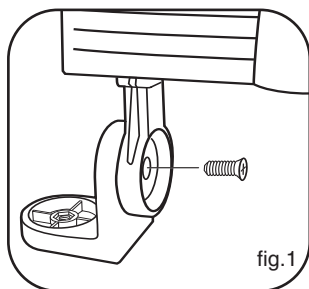

fig.1
1. Attach main body to the L – bracket as shown, using cross head screw note the orientation of the bracket. Do not fully tighten the screw to allow for later adjustment (fig. 1).